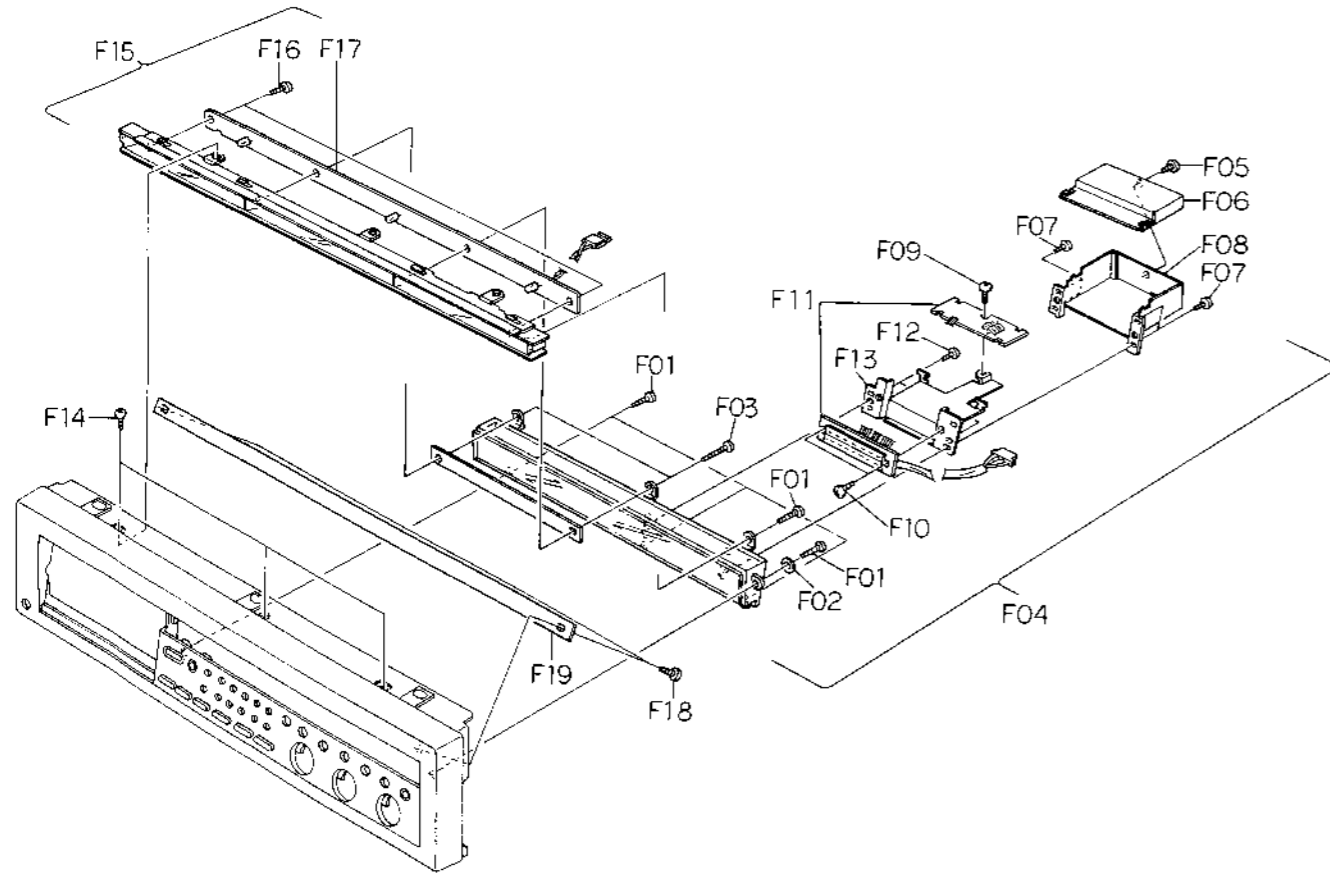

Fig. 2.4
- Refer to Fig. 2.4.
- (1) Remove LED Level Indicator Ass'y referring to item 2.13.
- (2) Remove F14, then disassemble F15 (Lamp House Cover Ass'y).
- (3) Remove F16, then disassemble F17 (Lamp P.C.B. Ass'y).
- (1) Remove Lamp House Cover Ass'y referring to item 2.14.
- (2) Remove F18, then disassemble F19 (Aluminum Mirror).